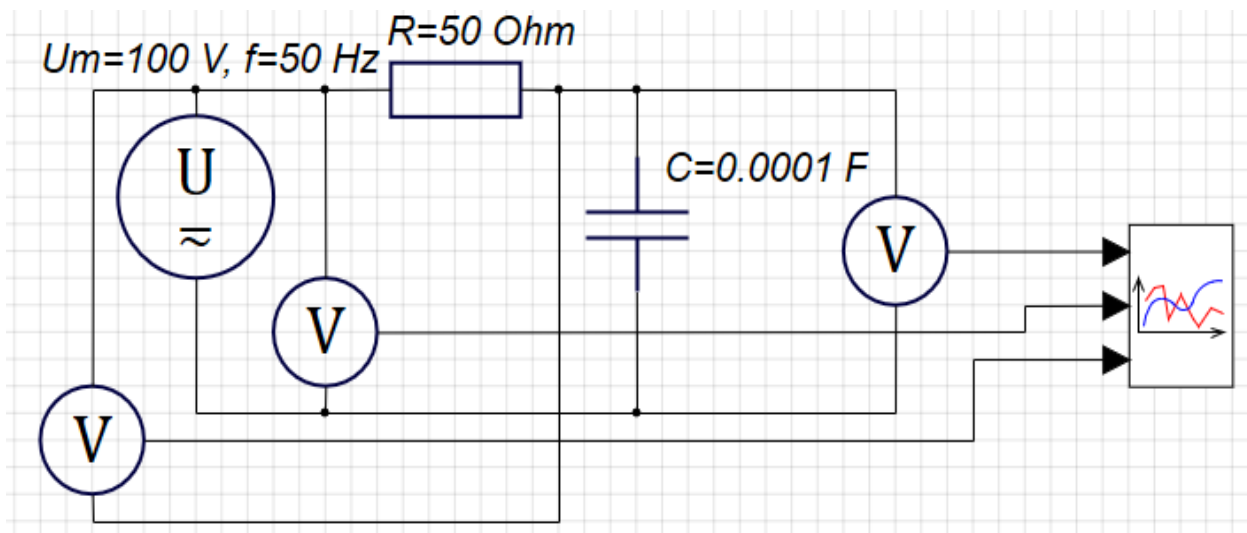

Figure 3.1
1. Assemble a dynamic model of the 1st-order inertial link in the project window of the SimInTech system when a harmonic signal is applied to its input (Figure 3.1).
– the **Final calculation time** equal to three input voltage periods (for the diagram in Figure 3.1, this value is 0.06 s);
– the **Minimum step (Maximum step)** is 100 times less than the final simulation time (for the scheme in the Figure 3.1, this value is 0.0006 s)
5. Set the **Minimum** and **Maximum** parameter values in the **X axis** section of the **Plot properties: Graph** window so that the graphic window displays one last period of the harmonic signal for your variant. For the diagram in Figure 3.1, these values are **0.04** and **0.06**, respectively. Also, uncheck the checkbox for configuring **Autoscale** in the **X axis** section.
– for the **Voltage source** and **RLC circuit** blocks, the same parameter values as in the diagram of Figure 3.1;
– the **Final calculation time** equal to three input voltage periods (for the diagram in the Figure 3.1, this value is 0.06 s);